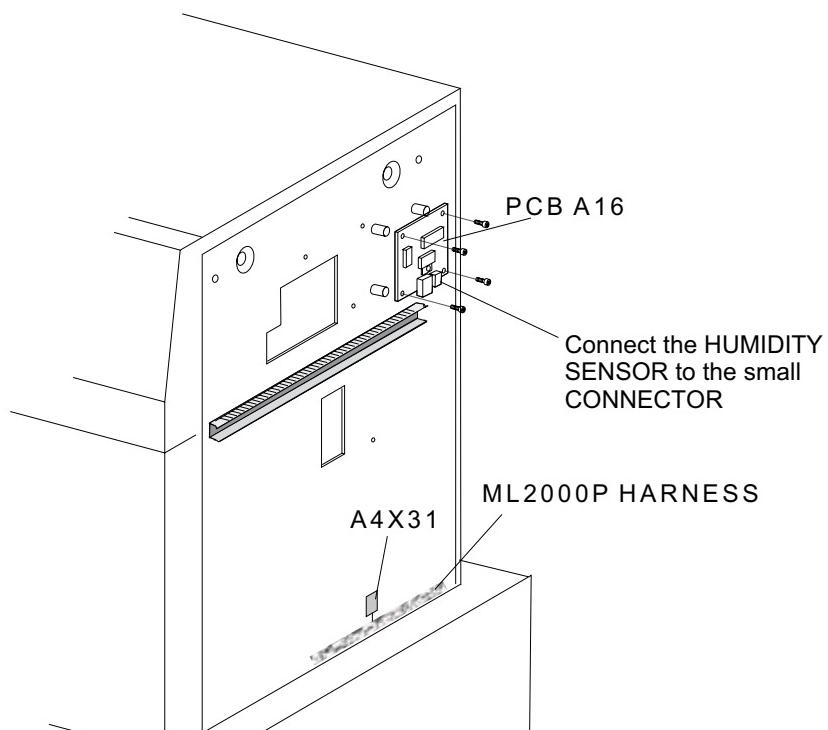

figure 1-8
11. Connect the HUMIDITY SENSOR to the small CONNECTOR on PCB A16. See figure 1-8.
- 15.** Locate CONNECTOR A4x31 in the ML2000P Harness. Plug in A4X31 from the HUMIDIFIER. See figure 1-8.